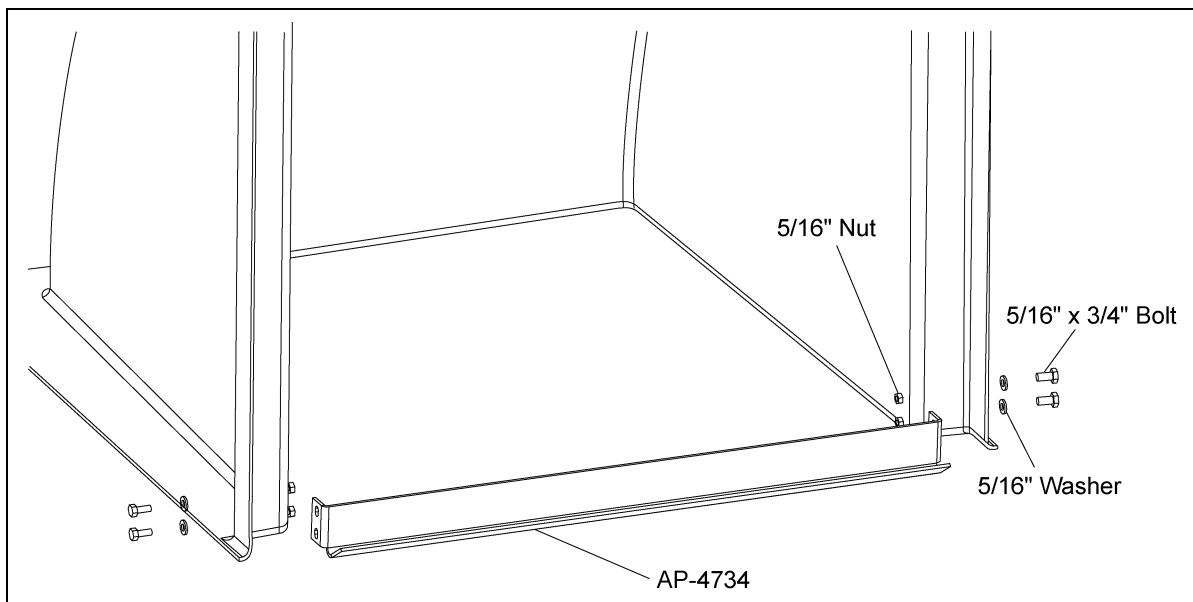

Figure 2B
Step 2: Install the bracket AP-4734 using the provided hardware. (See Figure 2B.)